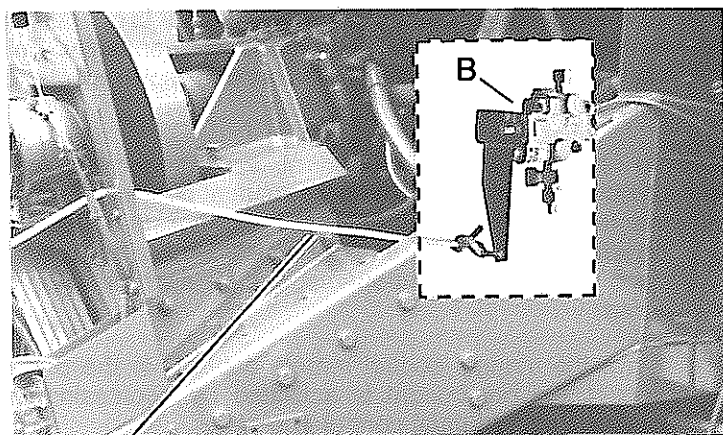

Fig. 7
The baler is equipped with a Stop/Reverse Control Rope (A) which is attached to a three-way valve (B), see Fig. 7. Its function is to reverse the pickup and feeder systems and operates as follows: